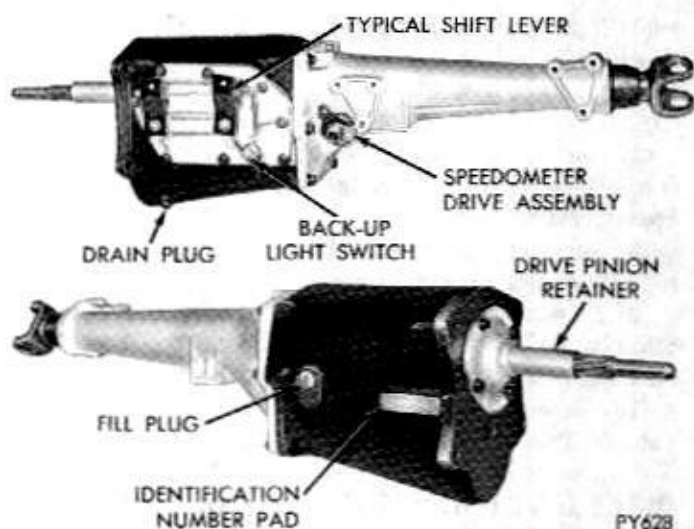

Fig. 2—A-230 Transmission—Left and Right Sides
A pad has been provided on the right side of the transmission (Fig. 2) for identification numbers.
(5) Also shift 2nd-3rd synchronizer sleeve forward for the same reason.
(6) Remove bolt and retainer securing speedometer pinion adapter in extension housing (Fig. 2). Carefully work adapter and pinion out of extension housing.
(7) Remove bolts that attach extension housing to rear of transmission case.
(8) Tap with plastic hammer to break gasket seal and carefully guide housing off rear of mainshaft.